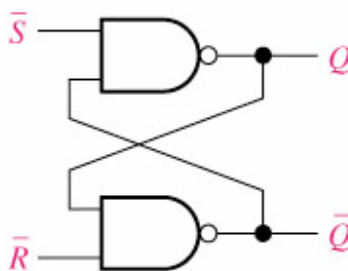

Figure 1: SR Latch
1. Make connections as shown in the diagram (Figure 1 and Figure 2).